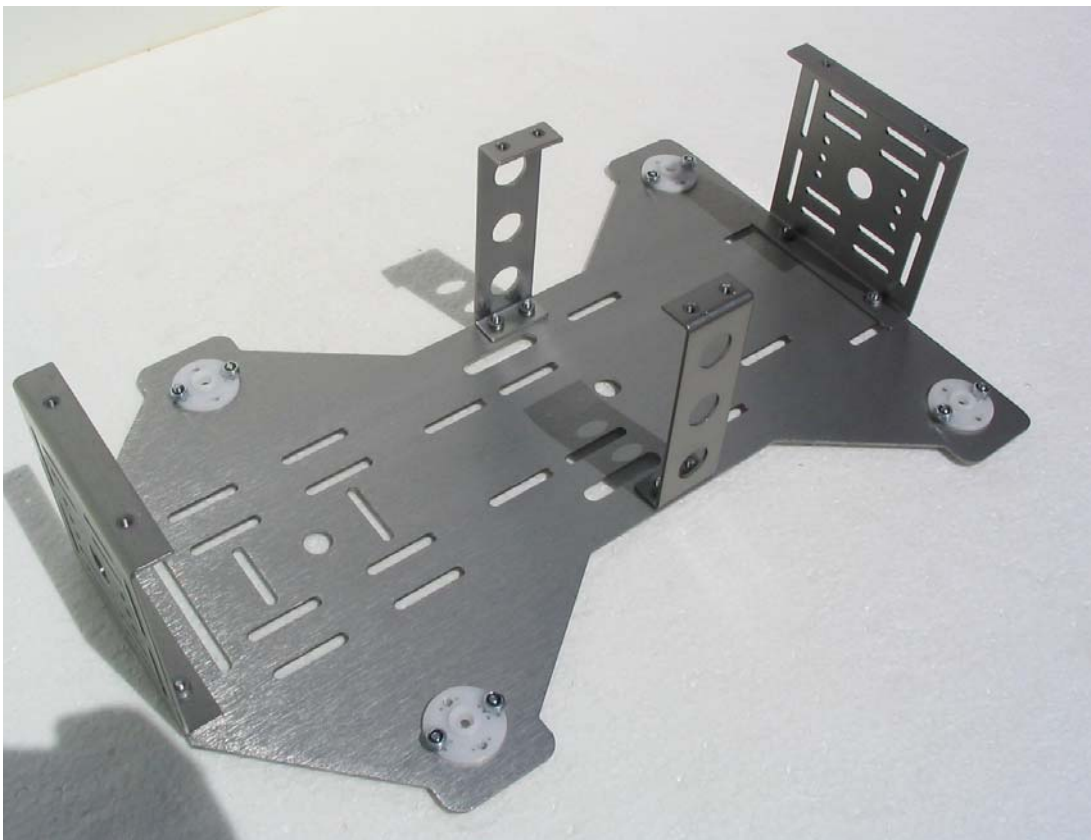

Figure 31: Upper Deck Assembly
2. Place the assembled upper deck on a clean, flat surface with the front and side braces facing up as shown in Figure 31.